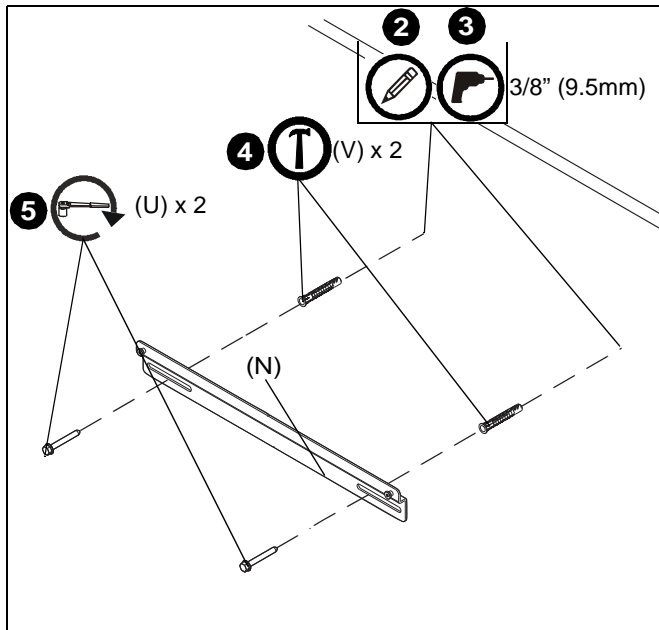

Figure 5
1. Place top bracket (N) against wall at desired mounting location 11.4" above the desired center of the screen. Use a level to ensure a level mount. (See Figure 5)
2. Mark hole locations at each mounting location near the center of each mounting slot. (See Figure 5)
3. Drill two 3/8" holes at marked hole locations. (See Figure 5)
4. Install an anchor (V) into each pilot hole using a hammer, making sure that the anchor is flush with the wall. (See Figure 5)